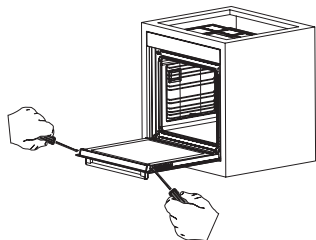
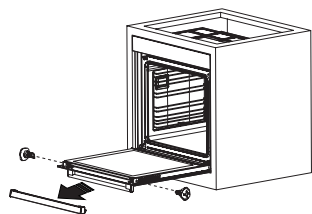
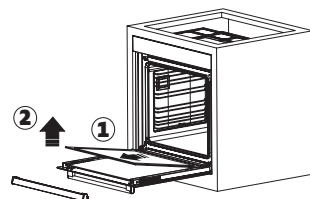

Figure 20
Figure 21
Figure 22
2. Remove the screws on the left and right side as shown in figure 20. Remove the profile by pulling it towards you as shown in figure 21. Glass is free after the profile is removed as shown in figure 22. Carefully pull the glass that has become free toward you. If necessary, the central glass can be removed in the same way. The outer glass is fixed to the oven door profile. You may easily clean the glass after it has been separated. Once the cleaning and maintenance is complete, you may replace the glasses and the profile by performing the removal procedure in reverse. Make sure that the glass is inserted in the correct direction and that the profile fits properly.